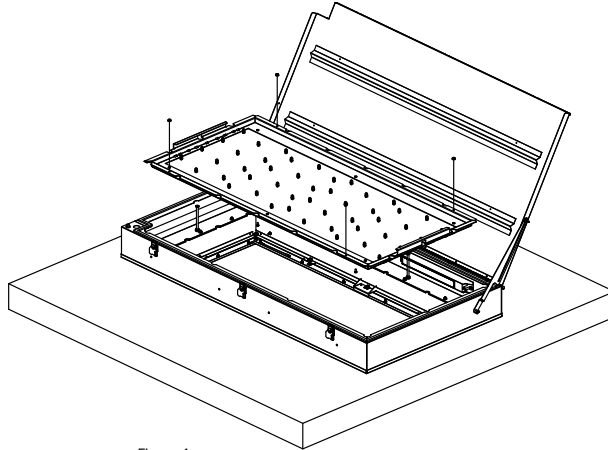

Figure 4
3. For LED module replacement, remove (4) nuts that secure the module frame and lift out. See Figure 4.